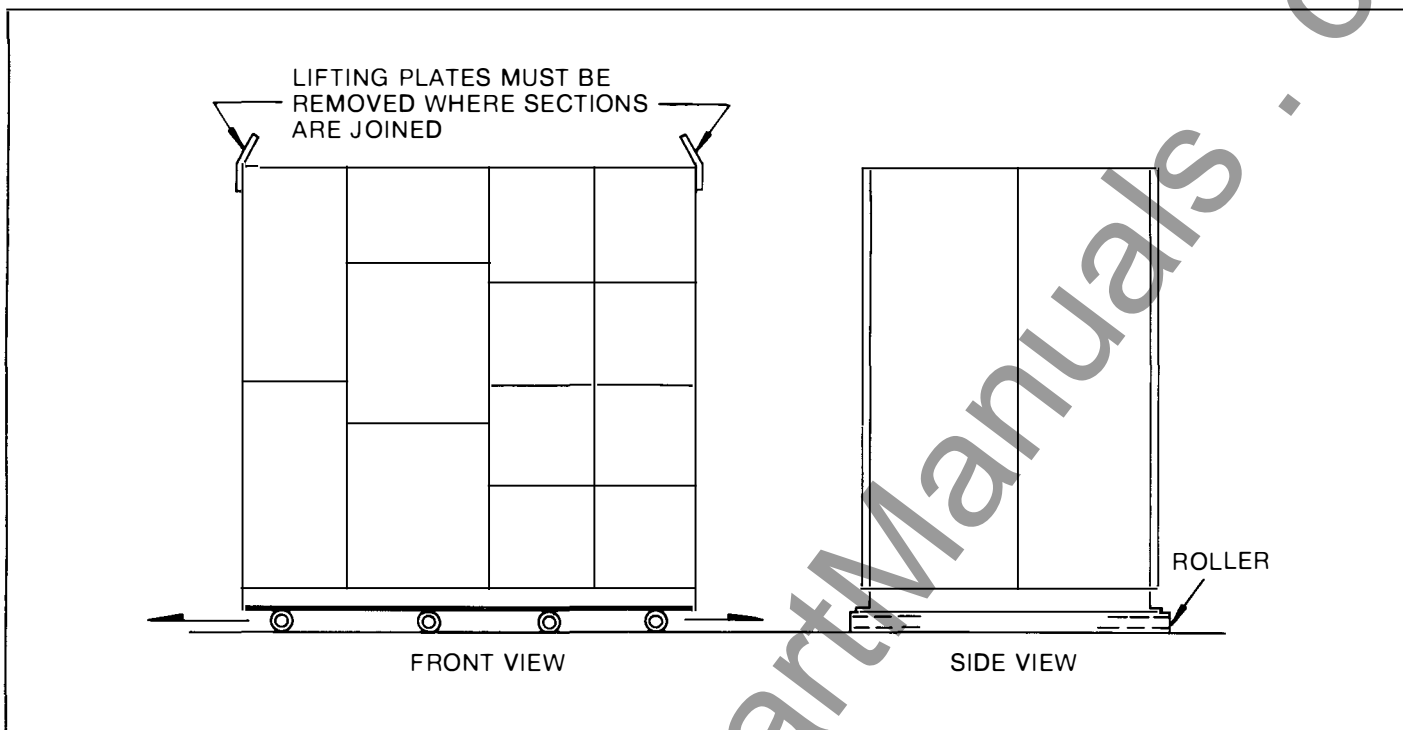

Fig. 2-8. Method of rolling equipment into place
- While carefully pushing the switchgear to its final site position, the rollers that are freed from the rear of the switchgear are then repositioned at the forward end. This procedure should be continued until the switchgear is in its final location. See Fig. 2-8.